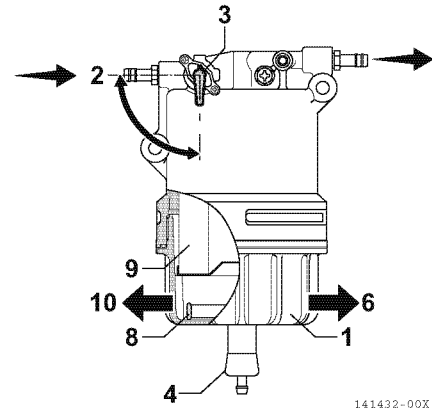

Figure 5-12
1. Position an approved container under the cup (1, Figure 5-12) of the water separator to collect the contaminants.
2. Close the fuel valve (3, Figure 5-12) by turning it to (2, Figure 5-12) position.
3. Loosen the drain valve (4, Figure 5-12) and remove the fuel oil and mixed substance. See *Drain water separator* on page 5-8.
4. Turn the cup (1, Figure 5-12) to the left (10, Figure 5-12) and remove from the bracket. If it comes with a drain sensor, remove the cable in advance.
5. While removing the cup, the element (9, Figure 5-12) may come off together. Carefully remove the cup to prevent fuel from spilling. If you spill any fuel, clean up the spill completely.
6. Remove the float ring (8, Figure 5-12) from the cup. If it comes with a drain sensor, there is not float ring. Move the drain inside the cup to the specified container, and dispose with a predetermined method.
11. Attach the bracket in the cup. Turn to the right (6, **Figure 5-12**) with a torque of 27 to 33 N·m (2.8 to 3.4 kgf·m). Always tighten with your hand.
13. Open the fuel valve (3, **Figure 5-12**).